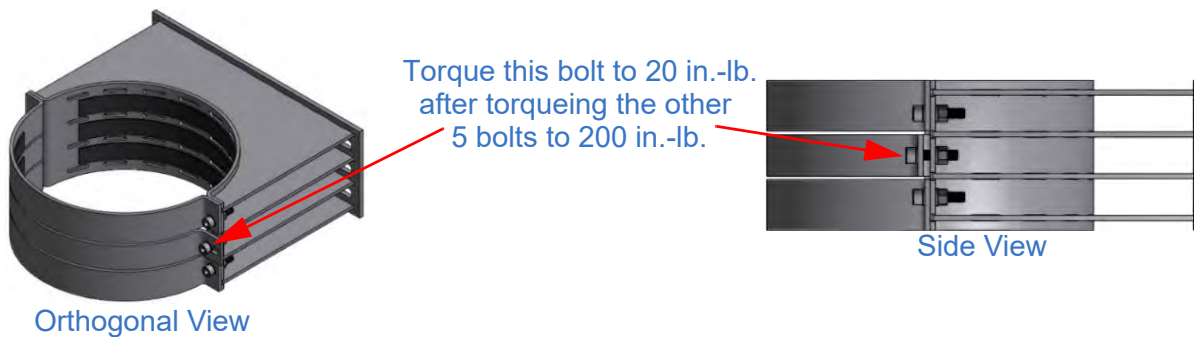

Figure 5-13 External Support Bracket P/N: 4894901 Installation
- P/N: 4894901: Torque the first five $\frac{3}{8}$ -16 bolts to 200 in.-lb. and final $\frac{3}{8}$ -16 bolt to 20 in.-lb. (Figure 5-13). Only torque the final $\frac{3}{8}$ -16 bolt after torquing the first five bolts.